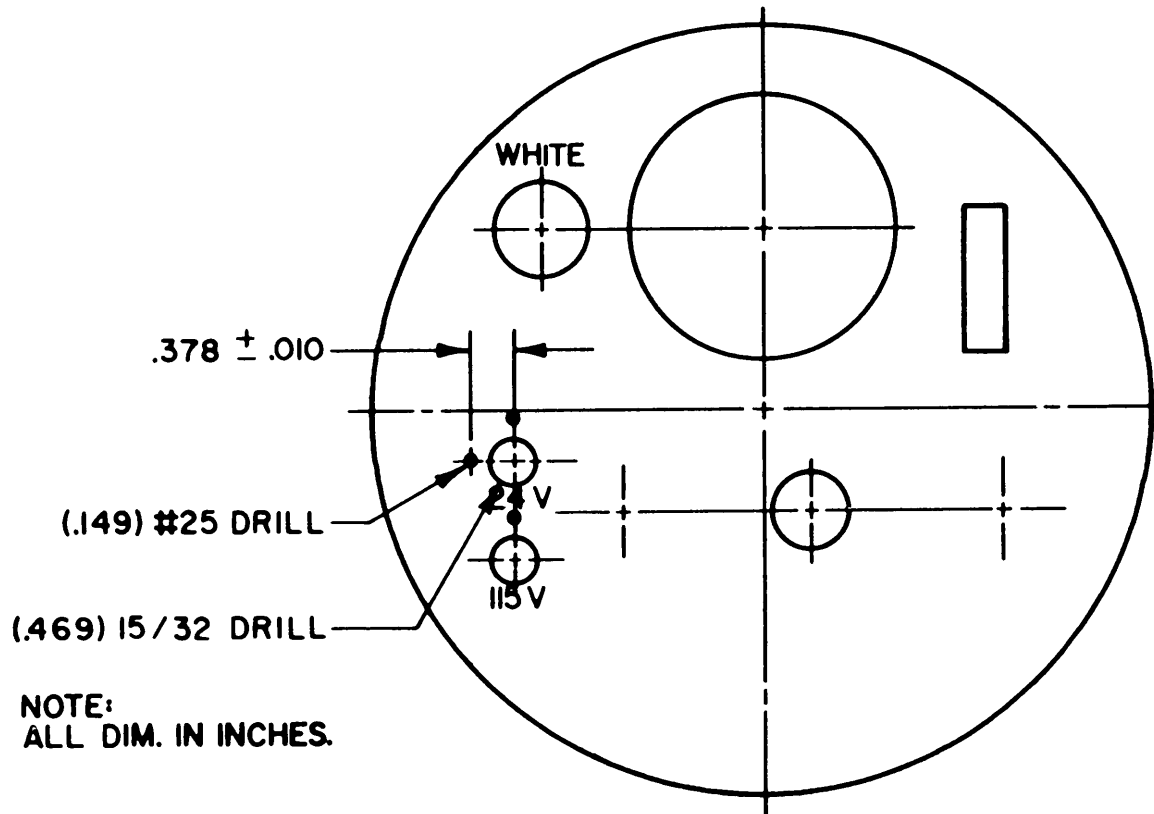

Figure F-1. Front Cover Alteration
- a. Drill or ream out circuit breaker hole to 0.469 (15/32) inch (see figure F-1).
- b. Drill 0.149 (#25 drill) hole in location shown (see figure F-1).
- c. Fill in the following engravings on the front cover per MIL-STD-171 with paint stick, MARKAL type B (black) (item 8, app D): white, 24-V, and 115-V.